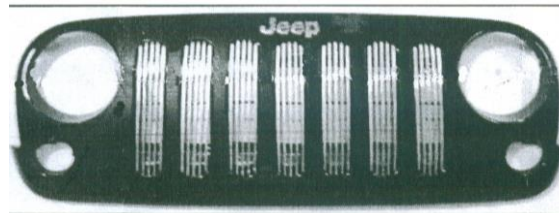

Figure 3 – Front view of positioning lower Billet Grille
- (2) Inspect product and check components with items listed above.
- (3) Pop Hood, remove plastic shroud at the top and set fasteners aside.
- (4) Optional: Using factory instructions, remove the entire front grille shell (as pictured in all Figures).
- (5) Position the lower Billet Grille onto grille shell cavity (Figure 3).
- (6) Loosely attach the Billet Grille by holding the Metal Brackets behind factory grille shell and inserting the Phillips Screws (from the front) through the Billet Grille holes and Metal Brackets, secure them with Flange Nuts provided (Figure 3).